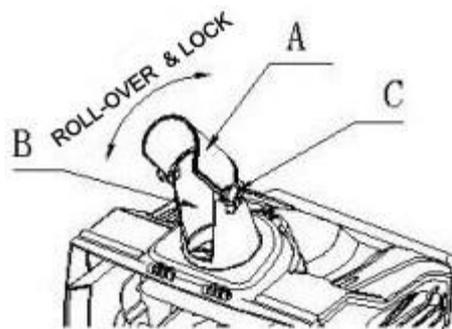

Fig. 12
5.12 Adjust chute cap B (part A on top of the chute) to control the throwing height of the machine. See Fig. 12: loosen the knob C, turn over A to adjust the snow throwing angle, and tighten knob C to lock it up.